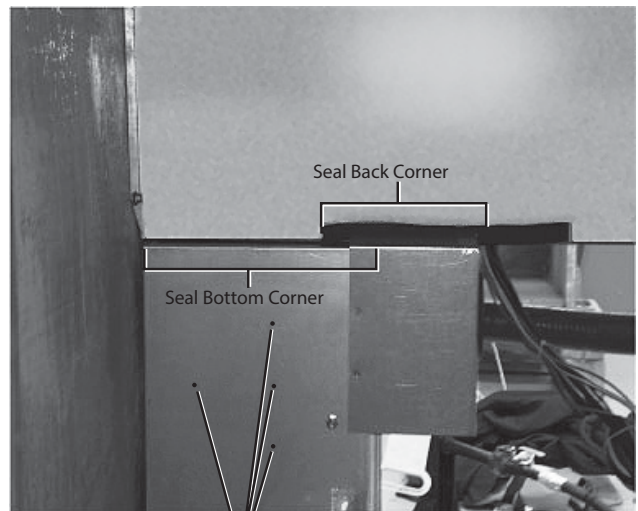

Fig. 40 - Seal Strip and Foil Tape Location
5. Add seal strip to the rear bottom corner of the control panel as shown in Fig. 40. Foil tape open screw holes on the back of the single point box as shown in Fig. 40. Different single point boxes will have different screw holes open.